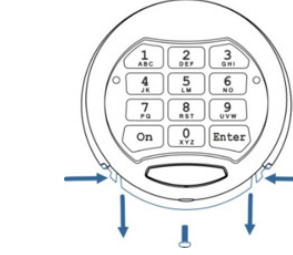

Fig. 5.1
- The pullout battery box (5) is located behind the casing of the keypad (1).
- Remove the screw on the underside of the battery box (see Fig.5.1).
- Squeeze the latches on either side, and pull the battery box down (see Fig.5.1).